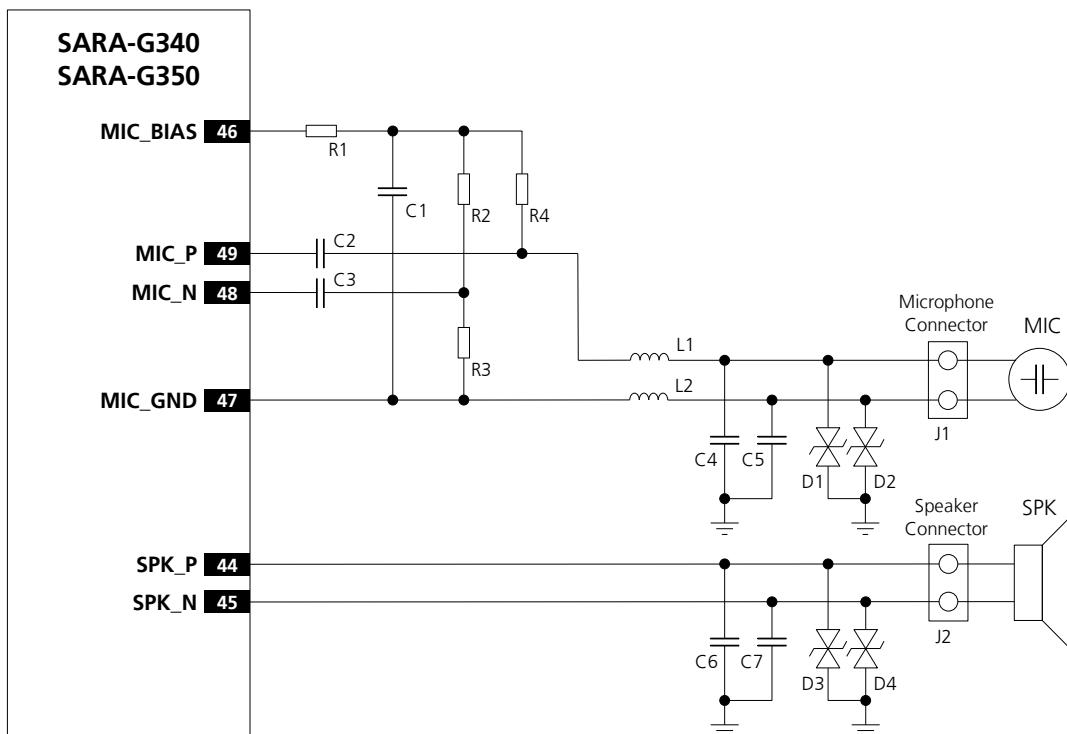

Figure 76: Analog audio interface headset and handset mode application circuit
Figure 76 shows an application circuit for the analog audio interface in headset and handset modes, connecting a $2.2\text{ k}\Omega$ electret microphone and a $16\text{ }\Omega$ receiver / speaker:
As in the example circuit in Figure 76, follow the general guidelines for the design of an analog audio circuit for both headset and handset modes:
- Provide a proper series capacitor at both **MIC_P** and **MIC_N** analog uplink inputs for DC blocking (as the $C2$ and $C3$ 100 nF Murata GRM155R71C104K capacitors in Figure 76). This provides a high-pass filter for the microphone DC bias with proper cut-off frequency according to the value of the resistors of the microphone supply circuit. Then connect the signal lines to the microphone.
- Mount an 82 nH series inductor with a Self Resonance Frequency $\sim 1\text{ GHz}$ (e.g. the Murata LQG15HS82NJ02) on each microphone line ($L1$ and $L2$ inductors in Figure 76).
- Mount a 27 pF bypass capacitor (e.g. Murata GRM1555C1H270J) from each microphone line to solid ground plane ($C4$ and $C5$ capacitors in Figure 76).
- Mount a 27 pF bypass capacitor (e.g. Murata GRM1555C1H270J) from each speaker line to solid ground plane (C6 and C7 capacitors in Figure 76).
- Provide additional ESD protection (e.g. Bourns CG0402MLE-18G varistor) if the analog audio lines will be externally accessible on the application device, according to the EMC/ESD requirements of the custom application. Mount the protection close to an accessible point of the line (D1-D4 in Figure 76).